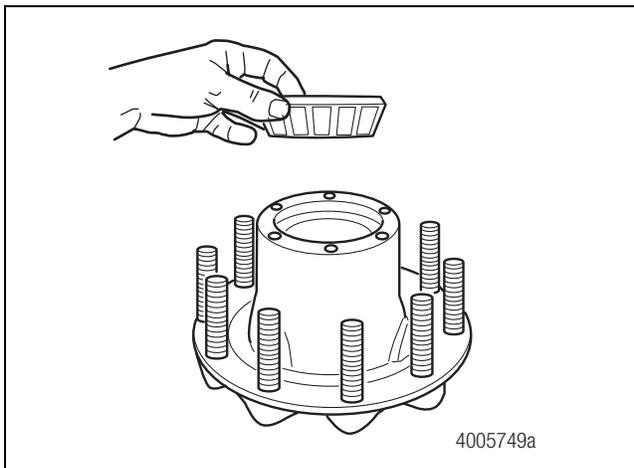

Figure 5.4
11. Lubricate the outer bearing cone with the correct wheel-end lubricant. Install the cone into the hub assembly. Figure 5.4.